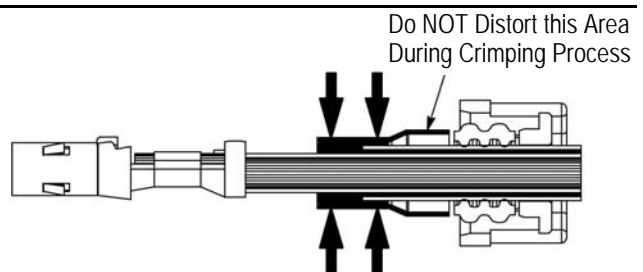

Figure 10
9. Crimp outer ferrule to the braided cable shield and inner ferrule in the area shown using 6.1 mm hex crimp tooling as shown in Figure 10. The hex crimp dimensions should measure  $6.20 \pm 0.10$  mm across all three sets of flat sections and there should be no flash in the hex crimp region.